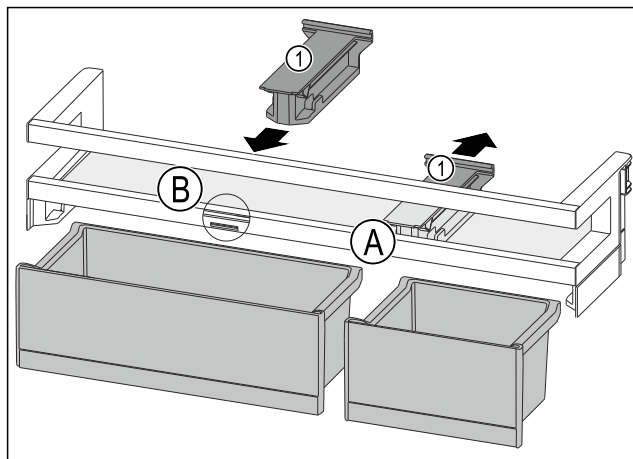

Fig. 189
- Take off the holding part Fig. 189 (1) in position Fig. 189 (A) backwards.
- Insert the holding part Fig. 189 (1) in position Fig. 189 (B).